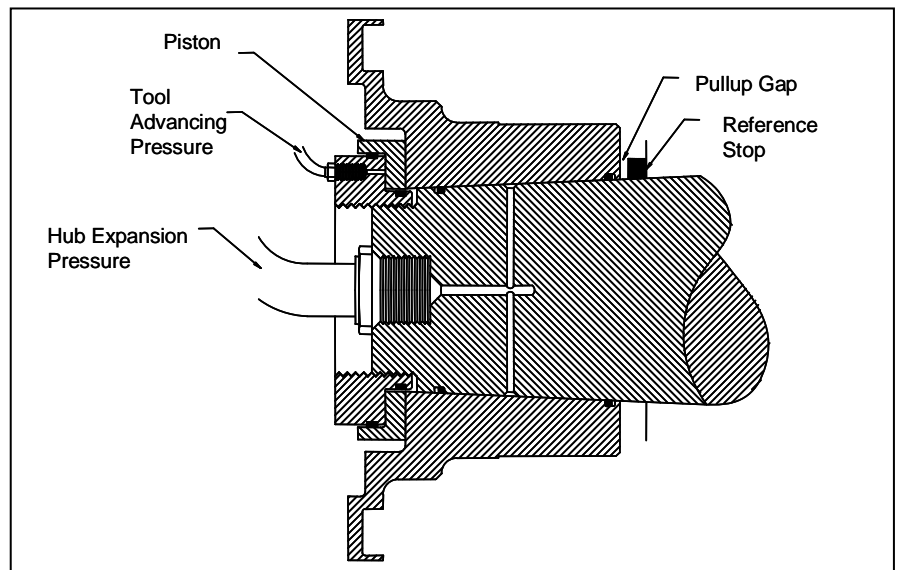

Figure 3-8 Typical Hydraulic Hub Installation Using Shaft Pressure Port
- Measure the distance between the end of the hub and some stationary reference point on the machinery housing and set an axial position stop at a gap distance that corresponds to the correct pullup. Lock shaft in fixed position if necessary. **See Figures 3-8 and 3-9.**
The pullup criterion for Goodrich hubs which may be used to accommodate variations in BSE and flange-to-flange distance is 0.001 inch/inch of interference greater than that resulting from the recommended pullup listed on the drawing. **This value must be treated as an absolute maximum.** Always use a reference stop as shown in **Figures 3-8 and 3-9.**